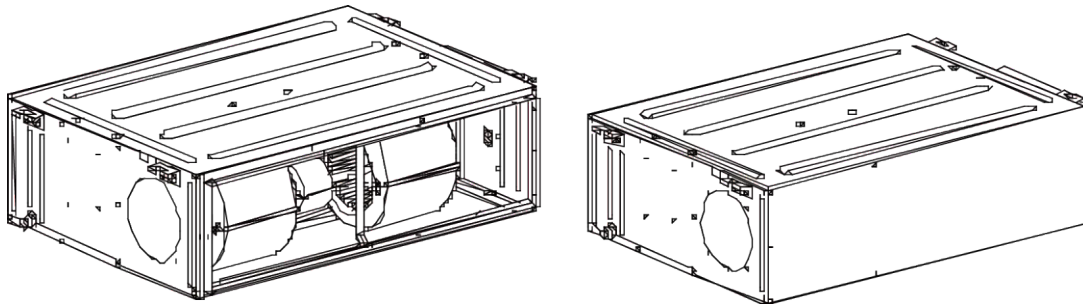

Fig 4.4.6
- (1) The rectangular return-air flange is installed at the back of the unit by default. The return-air cover plate is installed on the bottom of the unit, as shown in Fig. 4.4.6.